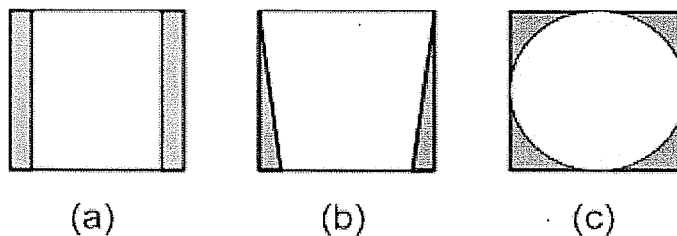

Figure 01
- (1) Draw the block diagram of the basic television receiver.
- (2) Explain the operation/function of the following components you may find in a monochrome television receiver.
- (3) Describe horizontal and vertical scanning processes. Draw the appropriate waveforms to support your answer.
- (4) Identify the following raster defects shown in Figure 01 and the causes for each identified defect.